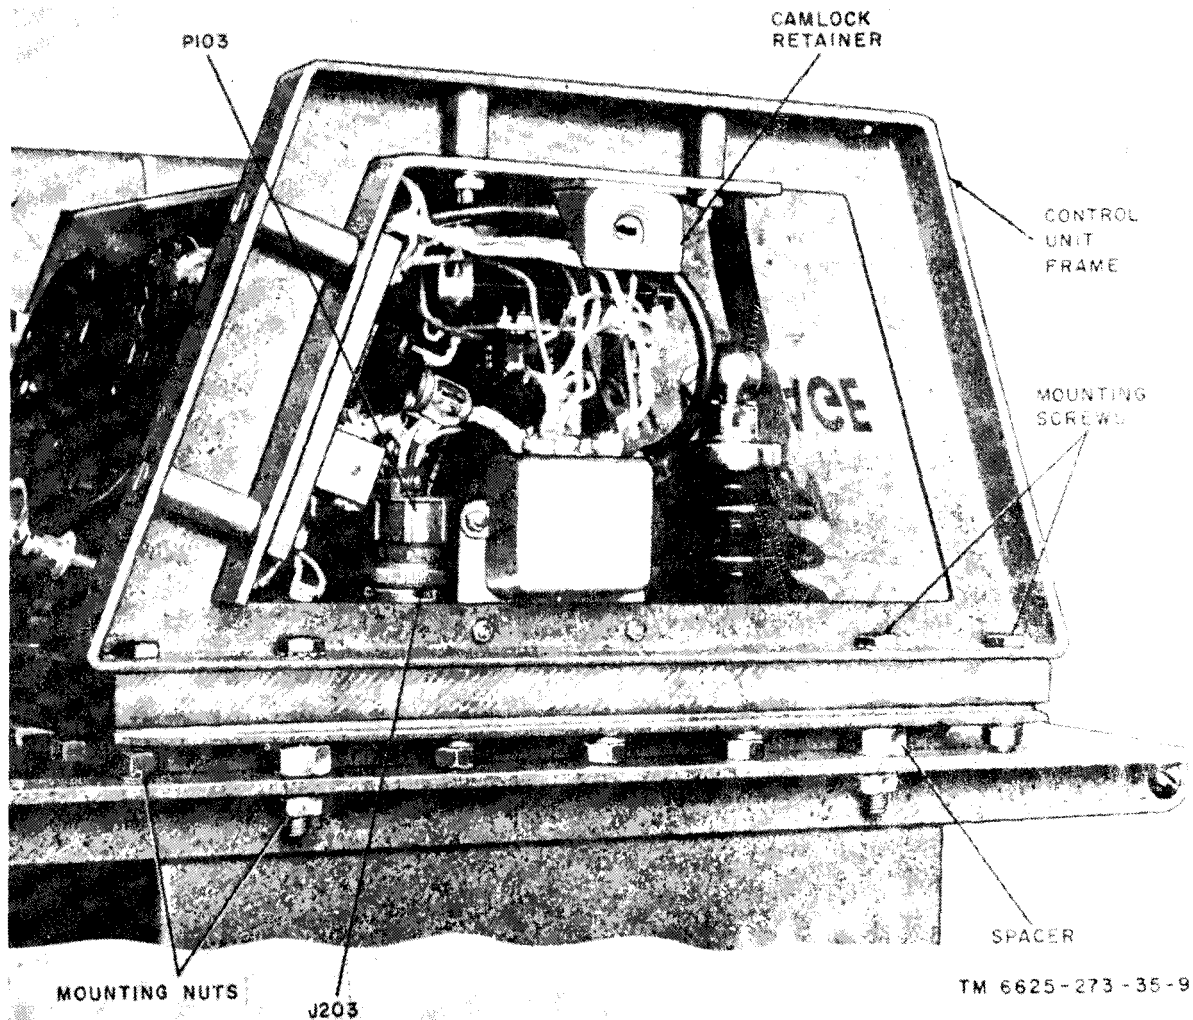

Figure 7. Control unit—right-side view, side removed.
- (1) Disconnect connector P103 from connector J203 (fig. 7).
- (1) Loosen the camlock retainers (fig. 7) and remove the end panels (not shown) from the control unit frames (fig. 3).
- (2) Separate connector P103 from connector J203 (fig. 7).
- (3) Remove the mounting screws, spacers, and mounting nuts from the control unit frames.
- (4) Separate the control unit from the rectifier unit.
- (2) Aline the mounting holes and secure the mounting screws, spacers, and mounting nuts in place.
- (3) Place the end panels (not shown) on the control unit frames and secure the camlock retainers (fig. 7).
- (4) Insert connector P103 into connector J203.